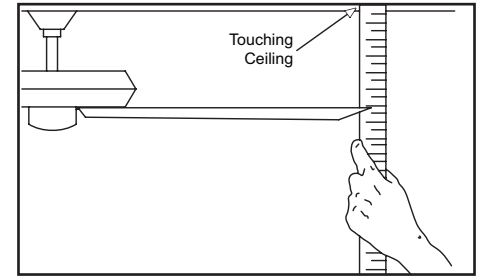

Figure 13
2. Most fan wobble problems are caused when blade levels are unequal. Check this level by selecting a point on the ceiling above the tip of one of the blades. Measure from a point on the center of each blade to the point on the ceiling. Measure this distance as shown in Figure 13. Rotate the fan until the next blade is positioned for measurement. Repeat for each blade. Measurements deviation should be within $1/8''$. Run the fan for 10 minutes.